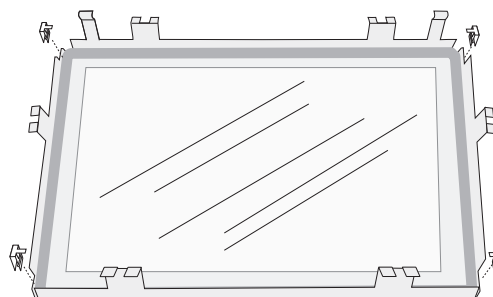

Figure 8.2.
- Lay the glass panel within the glass frame and press the tabs back down or press the clips in place as shown in fig. 8.2